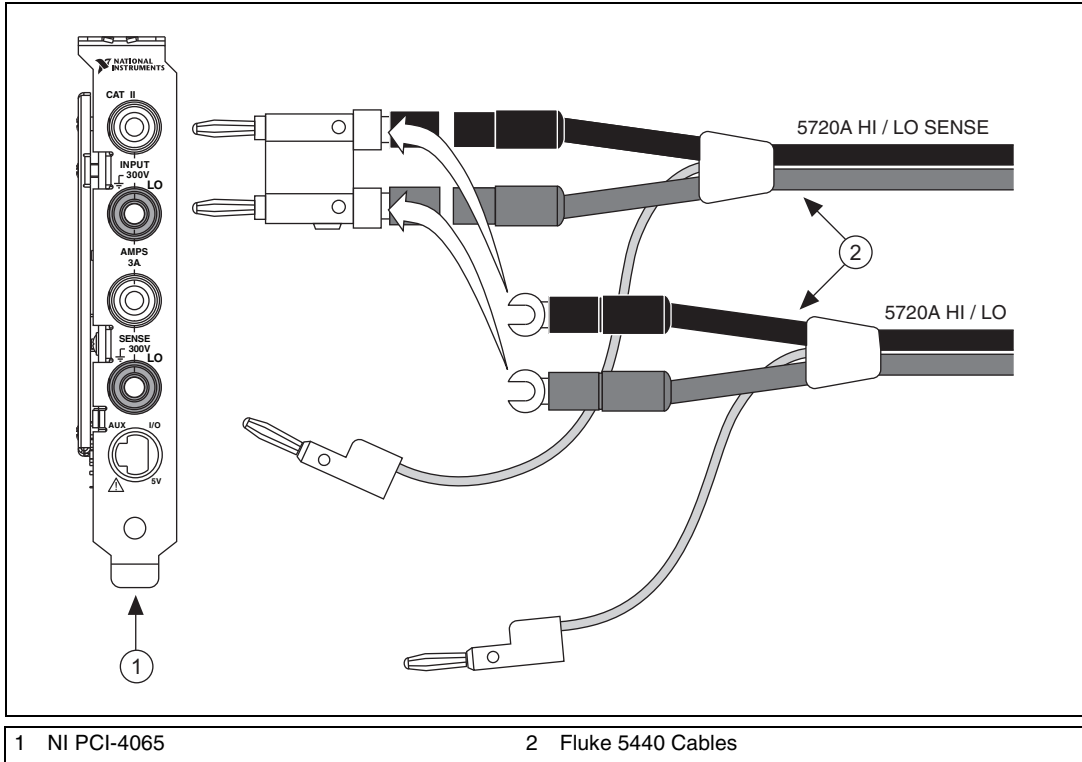
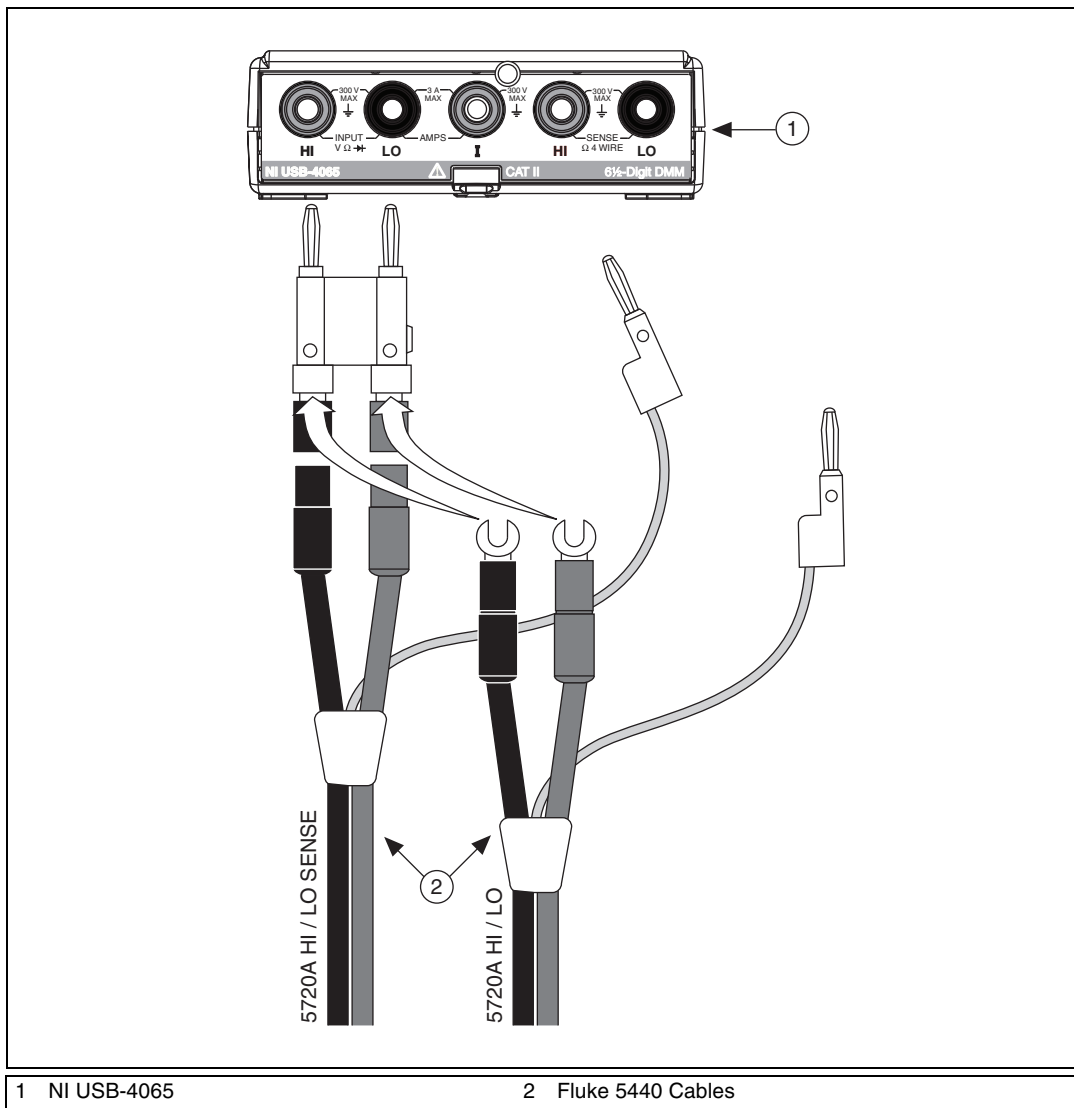

Figure 5. NI PXI/PCI/PCIe-4065 Cable Connections for 2-Wire Resistance
Figure 6. NI USB-4065 Cable Connections for 2-Wire Resistance
2. Connect the NI 4065 and the Fluke 5700A/5720A calibrator using two sets of Fluke 5440 cables, a double banana plug, and two insulated, low EMF spade lugs, as shown in Figure 5 for the NI PXI/PCI/PCIe-4065 and Figure 6 for the NI USB-4065. Table 9 lists the cable connections.